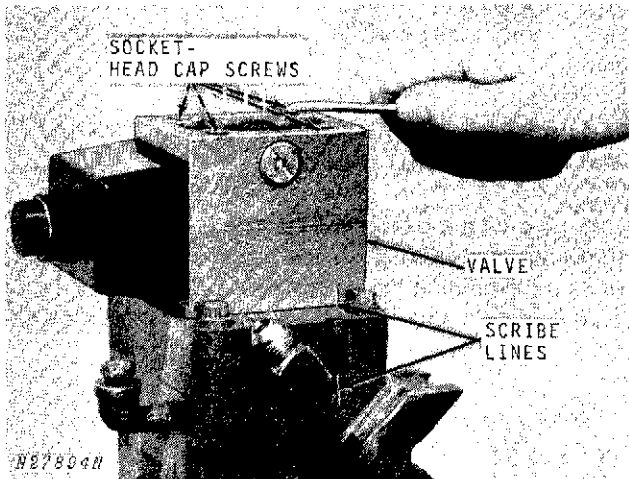

Fig. 6-Removing Solenoid Valve
3. Scribe the valve body, manifold, and actuator to aid reassembly, Fig. 6.
5. Remove the four 1/4 x 2-3/4-inch socket head cap screws that hold the valve to the actuator manifold, Fig. 6.